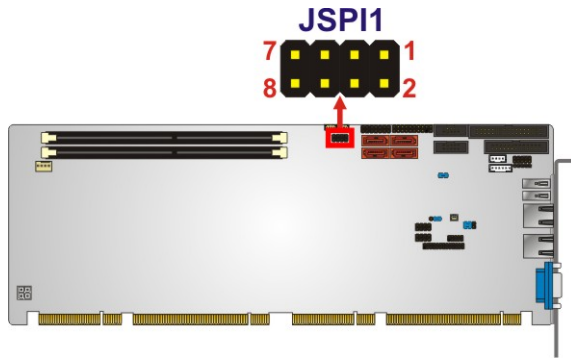

Figure 3-19: SPI Connector Location
- CN Location:** See **Figure 3-19**